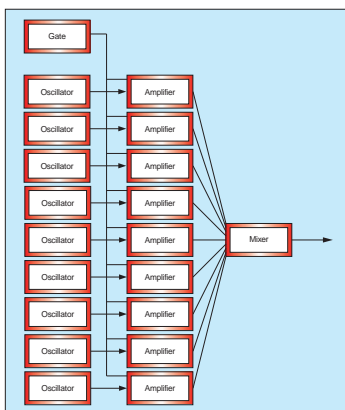
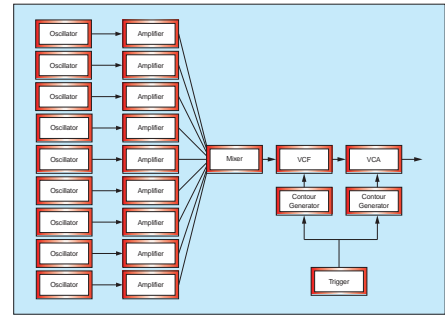

Figure 8: Configuring 20 modules as an additive synthesizer.
Figure 10: Adding filter and amplitude contours to our basic additive synthesizer.
the waveform. Indeed, if you have a large modular synth you can easily recreate the examples shown above. All you need are nine oscillators, nine VCAs, a mixer, and some form of Gate pulse to open the amplifiers when desired (see Figure 8). Yes, it's hopelessly inefficient, but the principle holds.
more like a conventional synthesizer, albeit one with a more complex initial waveform than that produced by conventional oscillators. This then suggests how we can modify the 'instrument' in Figure 8 to design a more interesting additive synthesizer: simply add a time-varying filter and a time-varying amplifier after the output from the mixer (Figure 10).
► in Figure 10 to recreate these tonal changes more accurately. Firstly, we must assign the pitches of the oscillators to imitate the harmonic nature of the string. This is simple — it's the $1/n$ harmonic series discussed many times before. Secondly, we must consider how each of these harmonics changes in time. This is also simple: we know that the sound becomes duller as time passes, so the higher-frequency harmonics must decay more rapidly than the lower ones. Thirdly, we must determine how the overall brightness and loudness of the sound changes as the note progresses, and create filter and amplifier profiles that emulate this. But hang on a minute — if a sound can, at any instant, be determined by the relative pitches and amplitudes of its constituent harmonics, we have no need for these filters and amplifiers — the changes in the harmonics do all the work for us. This understanding then leads us to Figure 11, which is much closer to describing how a real additive synthesizer works.